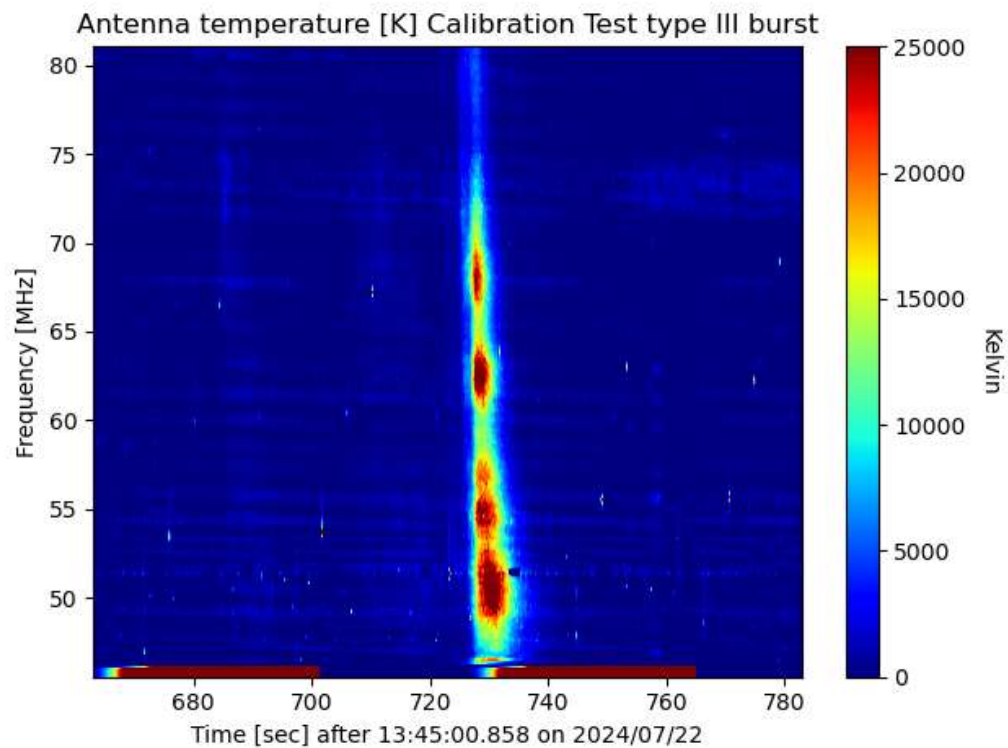

Fig. 12: Calibration in antenna temperature.
6. In all plot cases you need to play with colour-table and colour-table clipping parameter vmin and vmax to get best visual quality of the calibrated observation. Also relevant regarding visual quality is whether you subtract background or not, see figures 12 and 13.